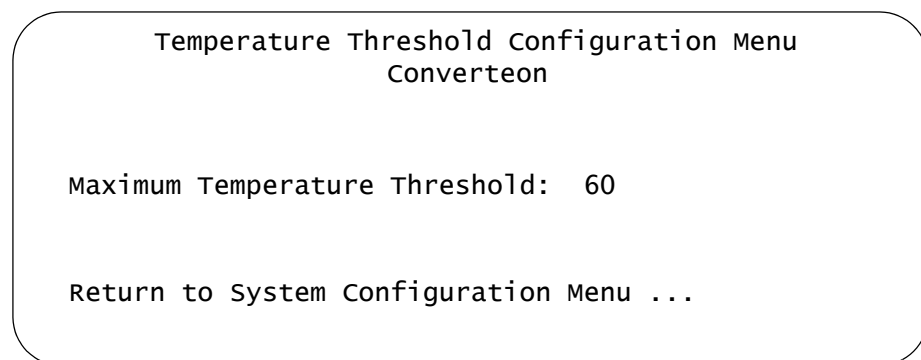

Figure 7. Temperature Threshold Configuration Menu
3. The Temperature Threshold Configuration Menu, as shown in Figure 7, is displayed.